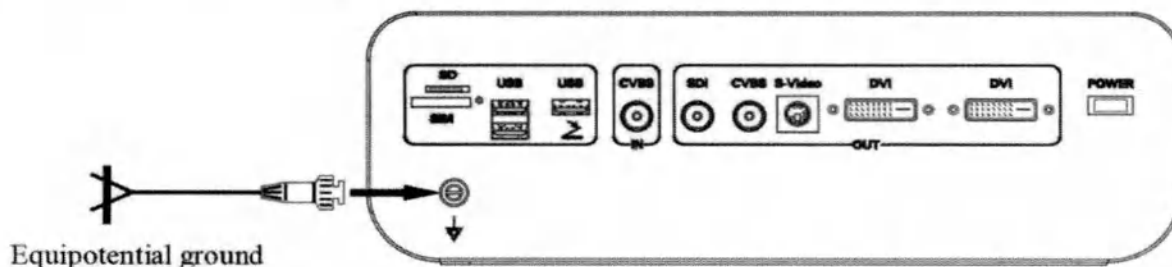

Fig 3.6
3.1.1.3.1 The E240D and E190DH equipotential cable is connected to the Equipotential ground as shown in Fig 3.6.